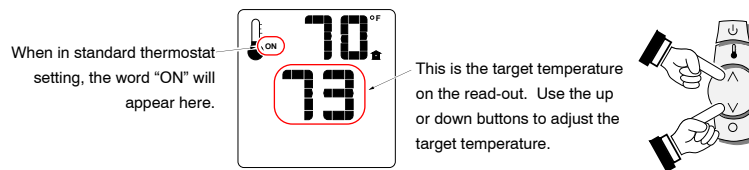

Figure 37
- **SMART THERMOSTAT** – While in smart thermostat, the transmitter will control the burner to achieve the target temperature (see Figure 37 below). Flame height will be adjusted up or down to allow operation without turning the burner on and off (also called “smart modulation”). To adjust the target temperature, press the up and down buttons until a suitable temperature is achieved.